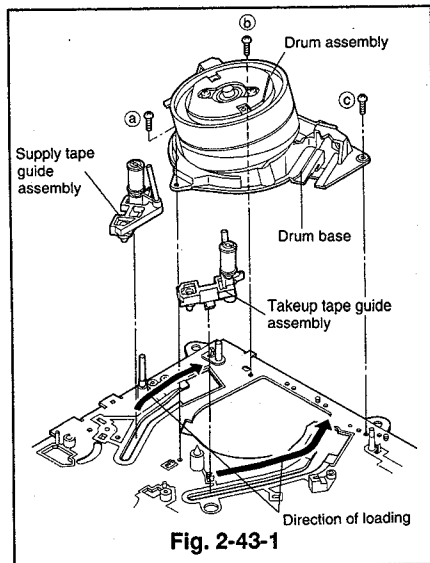

Fig. 2-43-1
(Refer to Fig. 2-43-1.)
- ② Install the supply and takeup tape guide assemblies so that they respectively enter the holes at the ends of the loading arms (SP and TU) attached to the reverse side of the deck as shown in Fig. 2-43-1.
- ⑤ Install the drum base on which the drum assembly is attached and secure it with the three screws (a), (b) and (c) as shown in Fig. 2-43-1.